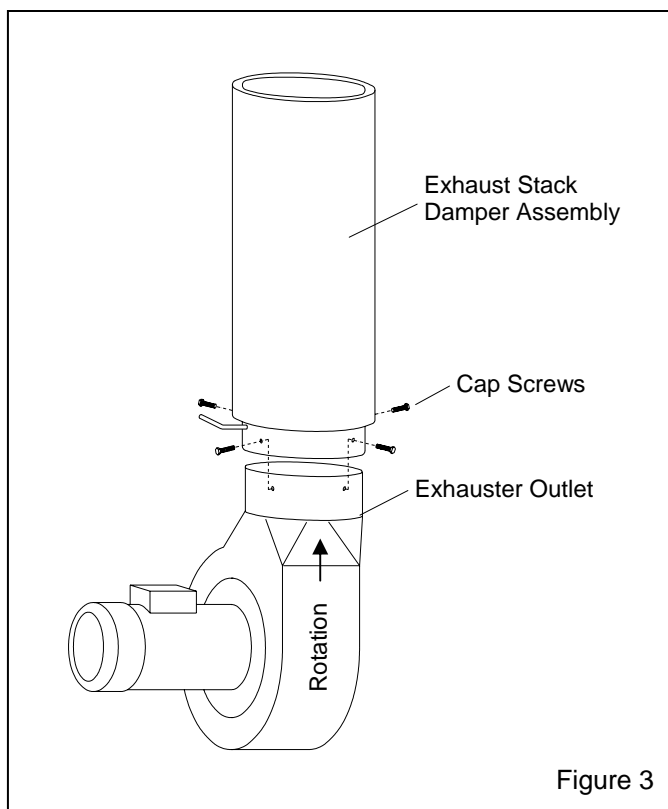

Figure 3
**2.2.2** Use the four cap screws provided, to attach the exhaust stack damper assembly to the exhauster outlet as, shown in Figure 3.
**2.3.4** After the wiring is completed, observe the subsequent warning, and check the motor rotation. To check rotation, jog the starter (momentarily turn switch on and off). This will cause the motor to rotate slowly. Look through the slots in the fan housing on top of the motor where rotation of the fan can easily be observed. Proper rotation is indicated by the arrow on the exhauster housing. The fan should rotate toward the exhauster outlet as shown in Figure 3.